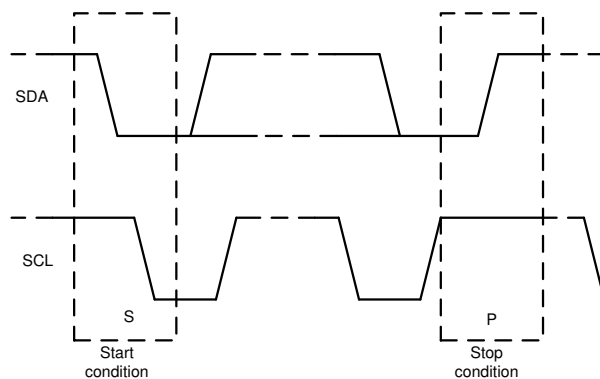

图 7-12. Start and Stop Conditions
1. The controller initiates data transfer by generating a start condition. 图 7-12 shows that the start condition is when a high-to-low transition occurs on the SDA line while SCL is high. All I²C-compatible devices recognize a start condition.
4. 图 7-12 shows that to signal the end of the data transfer, the controller generates a stop condition by pulling the SDA line from low-to-high while the SCL line is high. This action releases the bus and stops the communication link with the addressed target. All I²C-compatible devices recognize the stop condition. Upon receipt of a stop condition, the bus is released, and all target devices then wait for a start condition followed by a matching address.